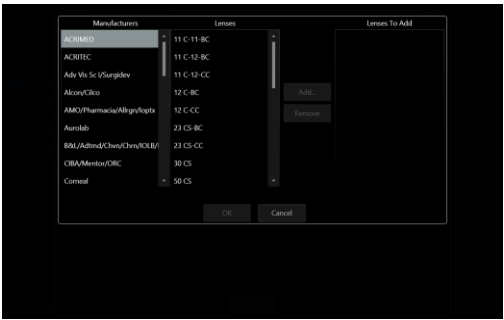

Fig. 2
- \* The preferred lenses (IOL’s) can be selected by selecting the “Lenses” tab on the user setup screen. Pressing “ADD” will display a window showing Lens Manufacturers on the left and lenses produced by that manufacturer in the center of the display. Once a lens is selected, the “ADD” key will become active and selecting this key will add the desired lens to the users preferred list. (see Fig. 2)